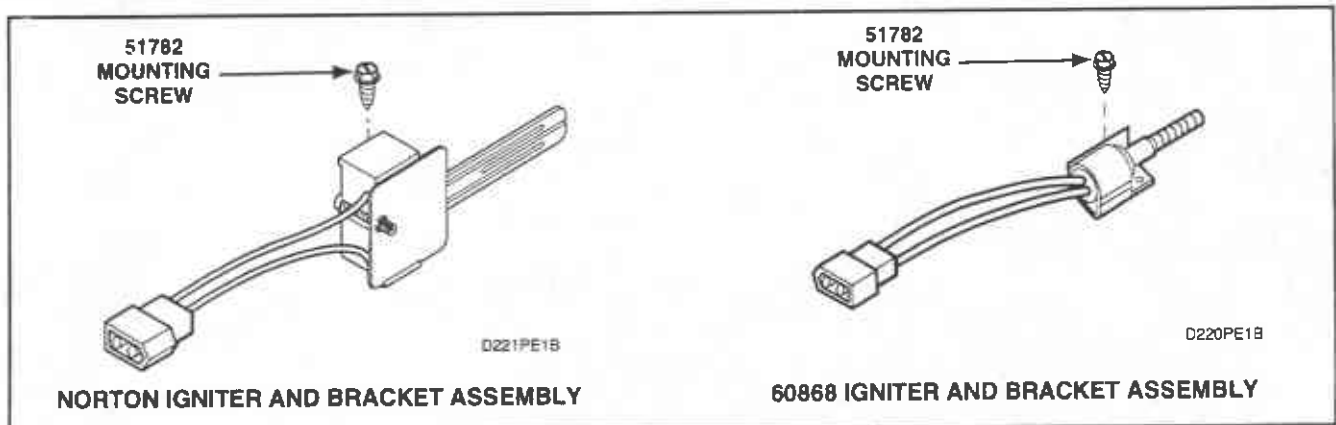

Figure 53
- Norton Igniter** — meter should read between 45-200 OHMS, *Figure 53*.
60868 Igniter — meter should read between 75-800 OHMS, *Figure 53*.